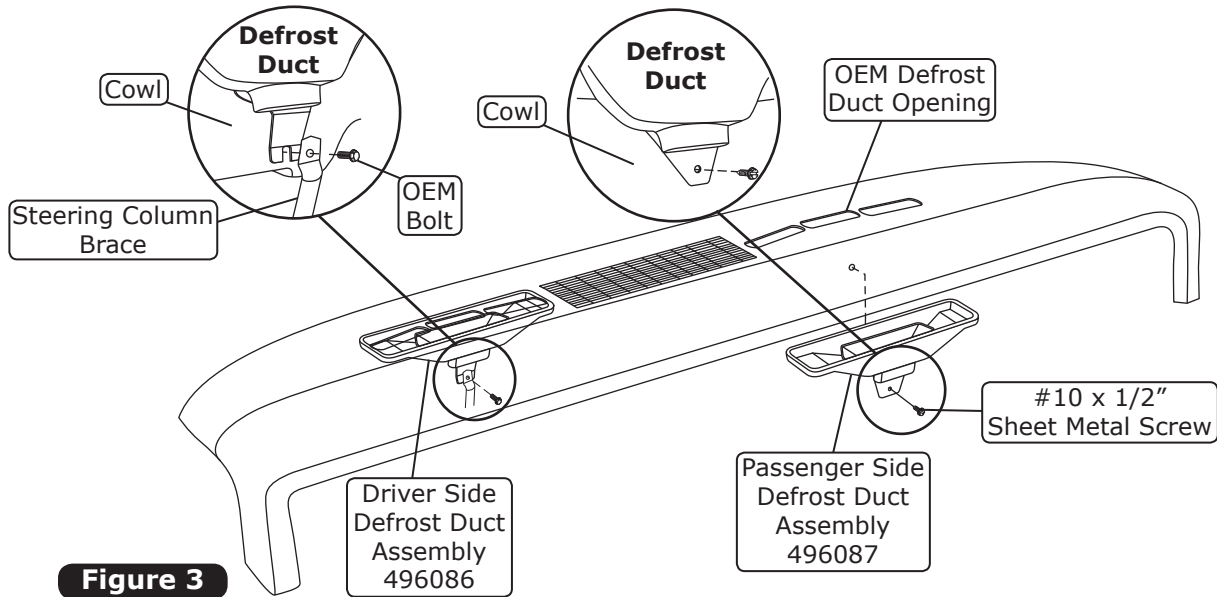

Figure 3
1. Install the defrost ducts under the dash and align them with the OEM openings. Install the passenger side defrost duct to the cowl using a #10 x 1/2" sheet metal screw (See Figure 3, below). **NOTE: The driver side defrost duct installs behind the steering column brace, and is secured using the steering column OEM bolt as shown in Figure 3, below.**